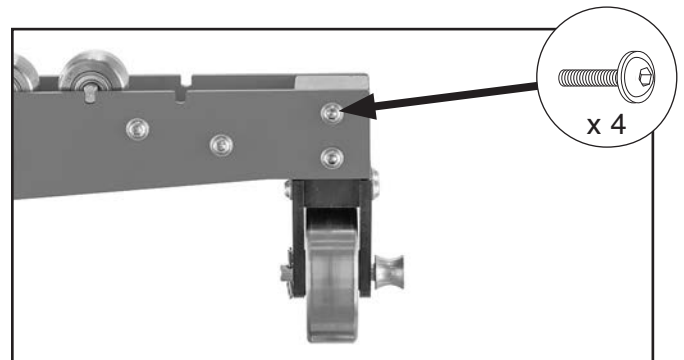

Figure 17. Upper wheel bracket installed.
2. Remove upper wheel bracket from frame, rotate 90°, then re-install upper wheel bracket and secure with (4) flange screws removed in **Step 1** (see **Figure 17**).